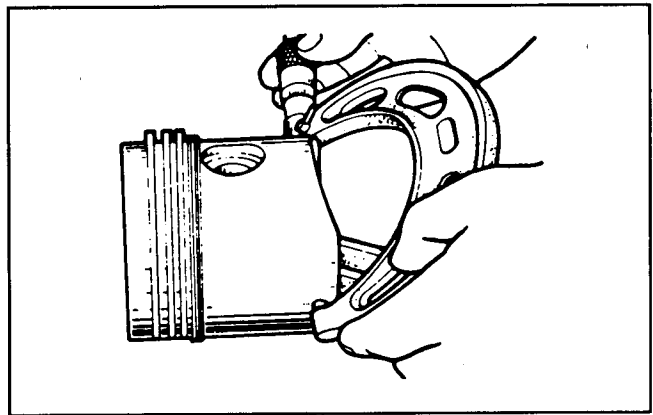

Figure 84
8. Measure the piston outside diameter (Fig. 84). (See Cylinder Block in this section).
2. Measure the piston diameter (Fig. 84).